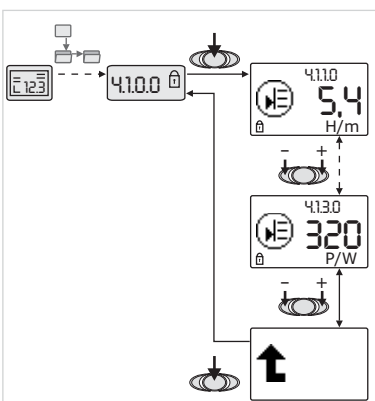

Fig. 35: Calling up information
- By pressing a tuning button, go to the menu elements of the "Information" type of the current submenu (see Fig. 35). For an explanation of the settings represented by the symbols, see the table in Section 8.7 "Menu elements reference" on page 67.